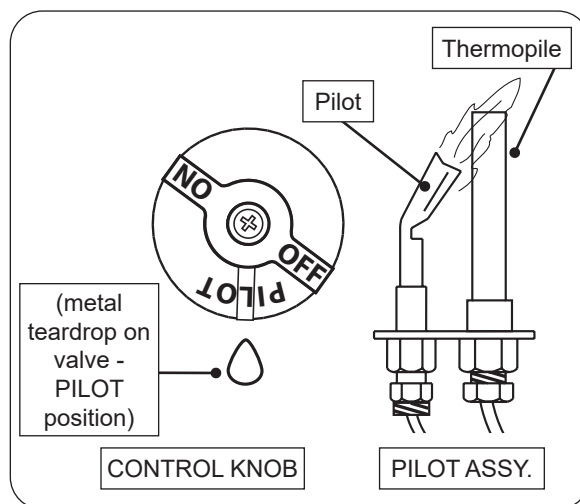

Fig. 27-1 Pilot lighting
3. Locate the pilot assembly on the side or rear of the burner pan (see Fig. 27-1).
4. Turn the control knob counterclockwise to **PILOT**. Push the knob **firmly and fully** in and hold. Hold a lighted long-stem match/ long-necked butane lighter near the thermopile to light the pilot. Continue to hold the knob in for about one (1) minute after the pilot is lit. Release the knob and it will pop back out. The pilot will remain lit. See Fig. 27-1. If it goes out, repeat steps 2-4.